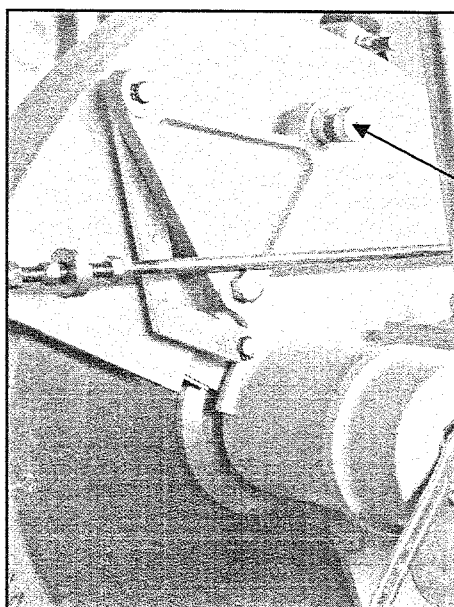

Fig. 10
2. remove the rod from the pivot fixed on the connecting rod at parallelogram, then lift manually the yellow protection, discovering the blade to insert more easily the spanner 36mm in the blocking screw (Fig. 10 part. **B**).